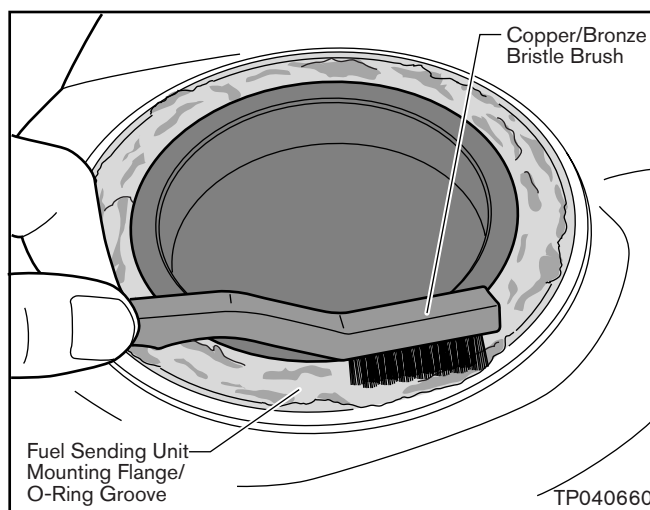

Figure 20
9. Completely clean the Fuel Tank Sending Unit Mounting Flange and O-Ring Groove by hand using Scotch Brite Pad 3M #051131-07447 or a copper/bronze bristle brush. See Figure 20.